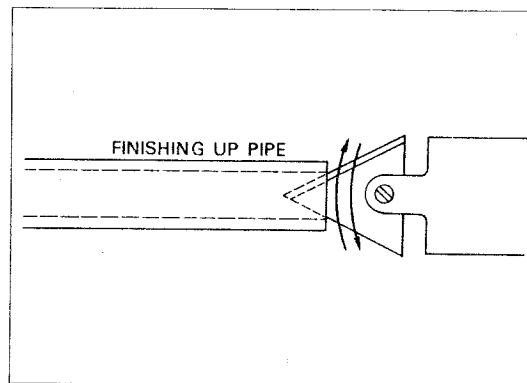

Fig. 42
- B) After cutting the pipe, always finish the internal surface of the pipe ends using the blade equipped with pipe cutter. See Fig. 42.